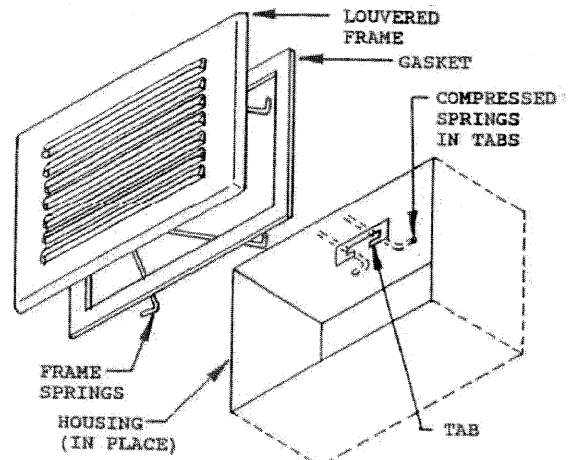

FIGURE 7
- 8.- Fasten GASKET to LOUVERED FRAME by peeling protective paper from GASKET and pressing adhesive side of GASKET onto FRAME. (SEE FIGURE 7)
- 9.- Compress FRAME SPRINGS and insert into TABS in HOUSING. (SEE FIGURE 7)